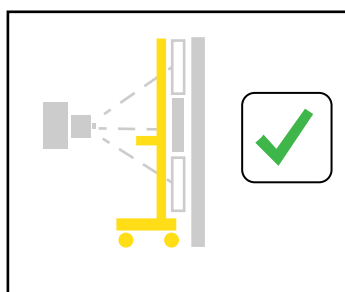

Fig. 4-56 Patient protection
4. Verify that the patient protection is placed in front of the wallstand by pressing the *green check* button on the display, see **Fig. 4-56**.